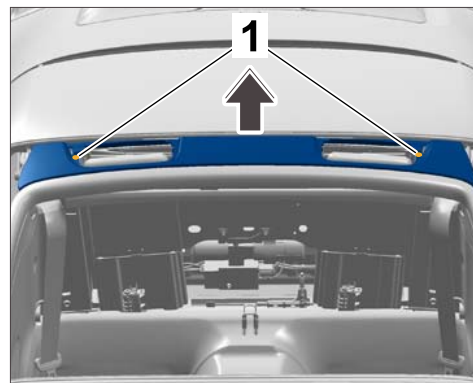

Figure 3
- 3.3 Unclip the cover and remove it by pulling it upwards ⇒ *Figure 3 -arrow-*.